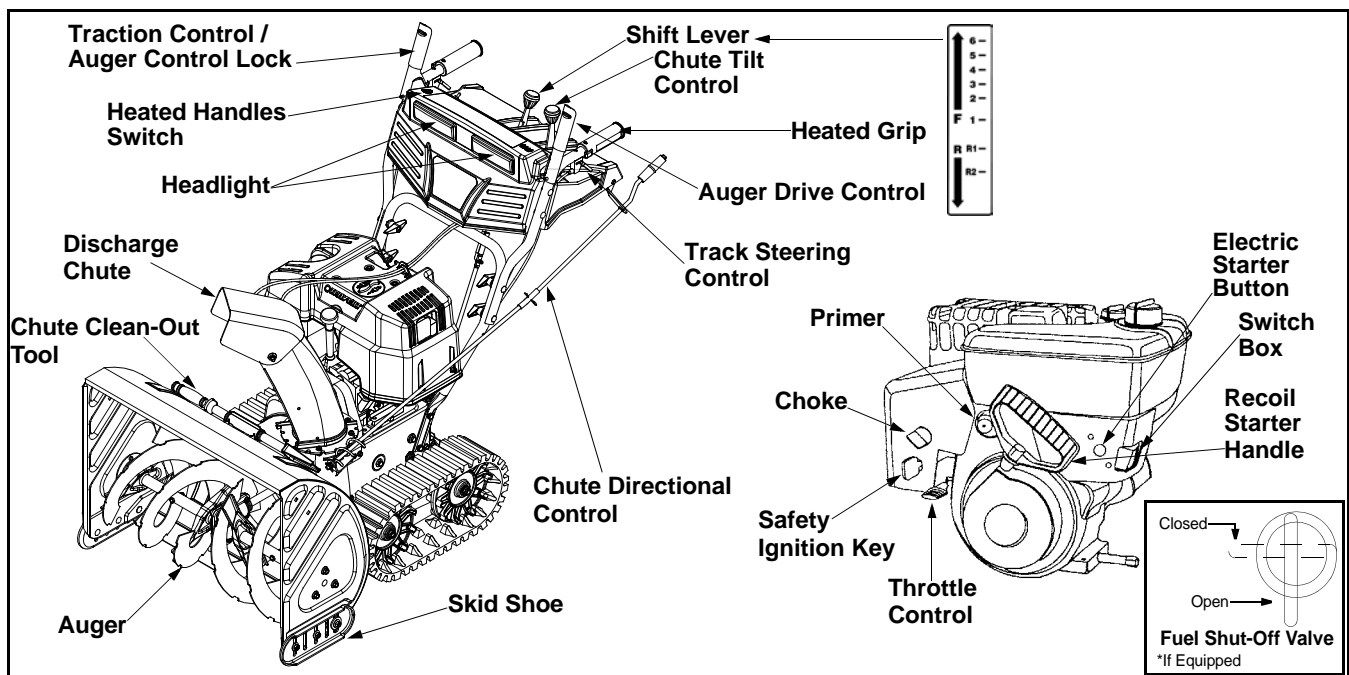

Figure 5
The traction control is located on the right handle. Squeeze the traction control to engage the wheel drive. Release to stop. See Figure 5.
The auger drive control is located on the left handle. Squeeze the control grip to engage the augers. Release to stop the snow throwing action. (Traction control must also be released.) See Figure 5.
The distance snow is thrown can be changed by adjusting the angle of the chute assembly. Move the chute tilt control forward to decrease the distance, toward the rear to increase. See Figure 5.
The position of the skid shoe is determined by the condition of the ground from where snow has to be removed. See Figure 5.
The shift lever is located in the center of the handle panel and is used to determine both ground speed and direction of travel. It can be moved into any of eight positions. See Figure 5.
The chute directional control is located on left side of the snow thrower. See Figure 5.
This switch is located on the right side of the snow thrower dash panel. To activate the heated handles, toggle the switch to the right to generate heat within the handle grips. Toggle the switch to the left to the OFF position after using the snow thrower. See Figure 5.
The left and right track steering controls are located on the underside of the handles and they are used to assist in steering the snow thrower. Squeeze the right track control when turning right, squeeze the left control when turning left. Operate your snow thrower in open areas until you become familiar with these controls. See Figure 5.
The throttle control is located on the engine. It regulates the speed of the engine and will shut off the engine when pushed down completely. See Figure 5.
On models so equipped, the fuel shut-off valve, located under fuel tank, controls fuel-flow from the gas tank. See Figure 5.
The safety ignition key must be fully inserted in the switch before the unit will start. Remove the ignition key when the snow thrower is not in use. See Figure 5.
- Move throttle control up to FAST position. Insert ignition key into slot. See Figure 5. Be certain it snaps into place. **Do not turn key.**